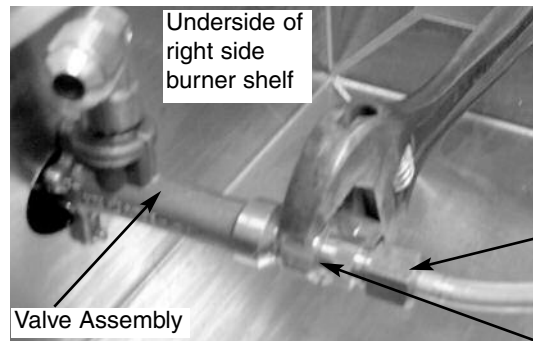

Fig 36
9. Reattach aluminum line from the new LP valve to the side burner. (See Fig. 36)
10. Tighten the aluminum line going from the side burner valve to the side burner, using and adjustable wrench. (See Fig. 36)